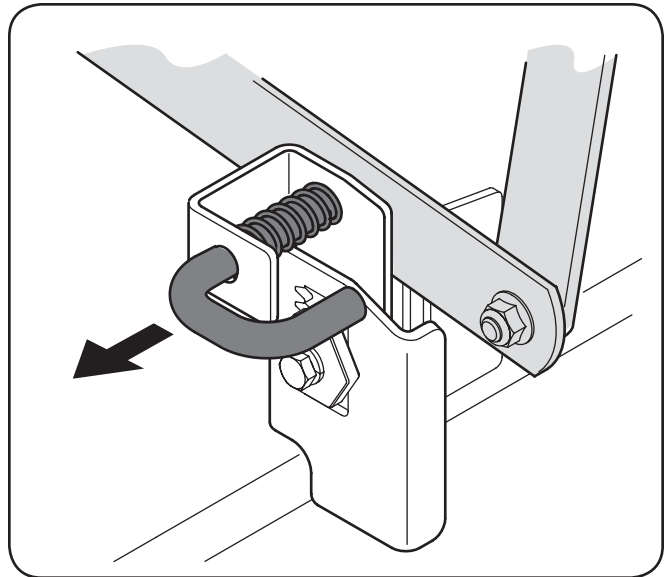

Figure 4-2
8. Pull the deck support pin outward to release the deck from the deck lift arm. See Fig. 4-2.